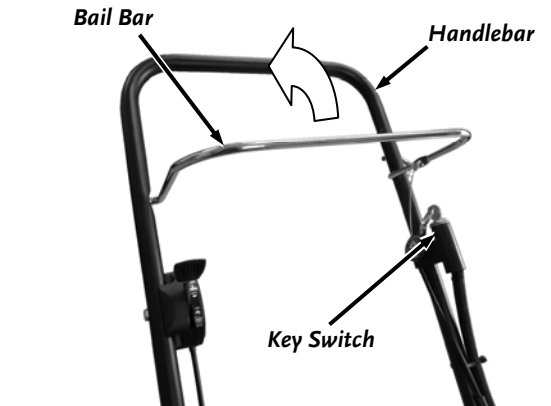

Figure 9
3. Turn the Key (**Figure 9**) to the START position until the Engine starts, then release. The Key will snap back to the RUN position and the Engine will continue to run.
1. Bring the Bail Bar toward you and grip it together with the Handlebar (**Figure 9**). Keep holding the Bail Bar to the Handlebar. The Cutting Cords will rotate and will continue to rotate until you release the Bail Bar.